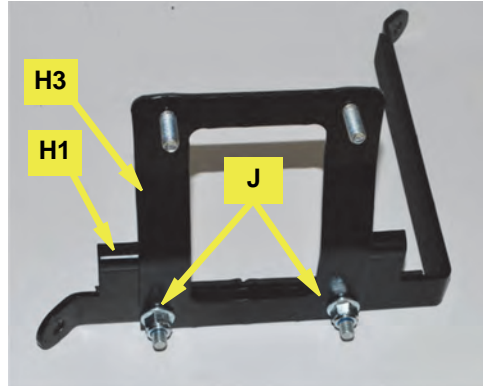

Figure 3a: Pillow block mounting bracket on front clamp bracket
a. Using flanged nuts **J**, mount the pillow block mounting bracket **H3** to the front console clamp **H1** (Figure 3a).